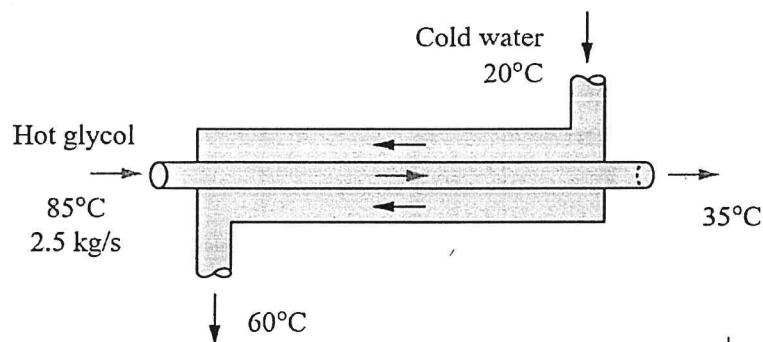

Figure 5: Double-pipe heat exchanger
*Refer Below - Figure5 : Double-pipe heat exchanger .*